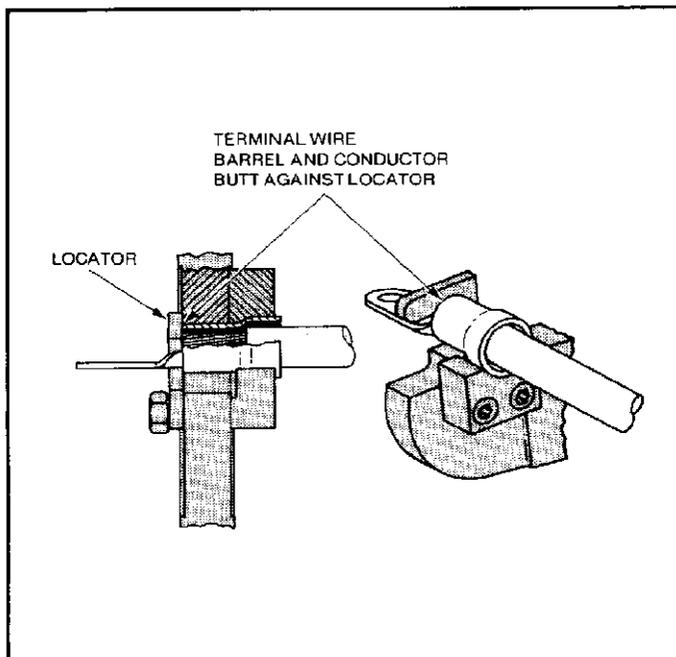

Figure 3
- Place terminal in lower jaw die as shown in Figure 3. Terminal wire barrel must butt against locator.
- Insert stripped wire into wire barrel of terminal until end of conductor butts against locator as shown in Figure 3.